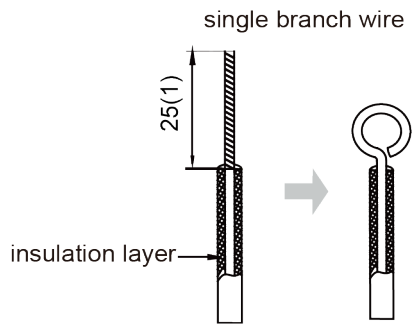

Fig.13
- (1) The connection of wire (as shown in fig.13).